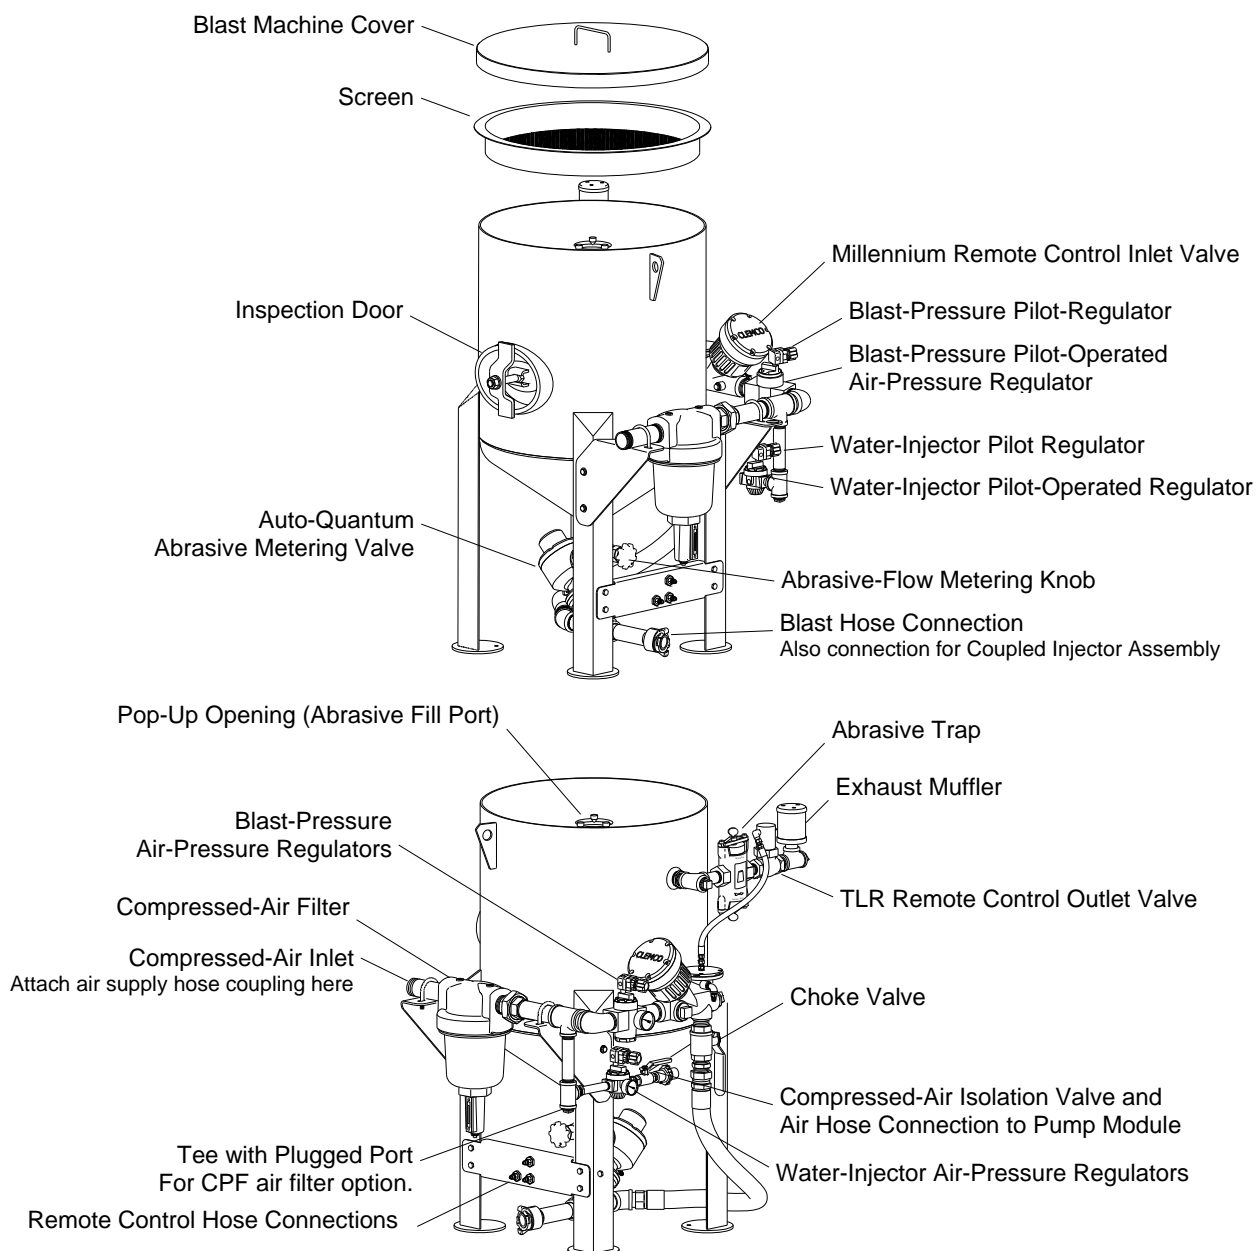

Figure 2
1.6.1 Blast machine **Components are shown in Figure 2**